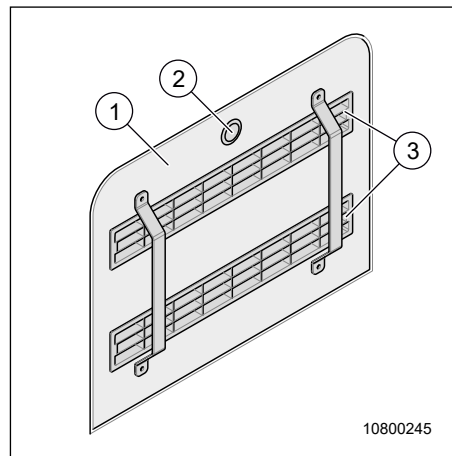

Fig. 53 Heating hatch
→ Covering or blocking the ventilation grille (Fig. 53, Pos. 3) causes overheating and leads to damage to the surrounding components.
- Open the hatch (Fig. 53, Pos. 1) by pressing the push-lock (Fig. 53, Pos. 2).